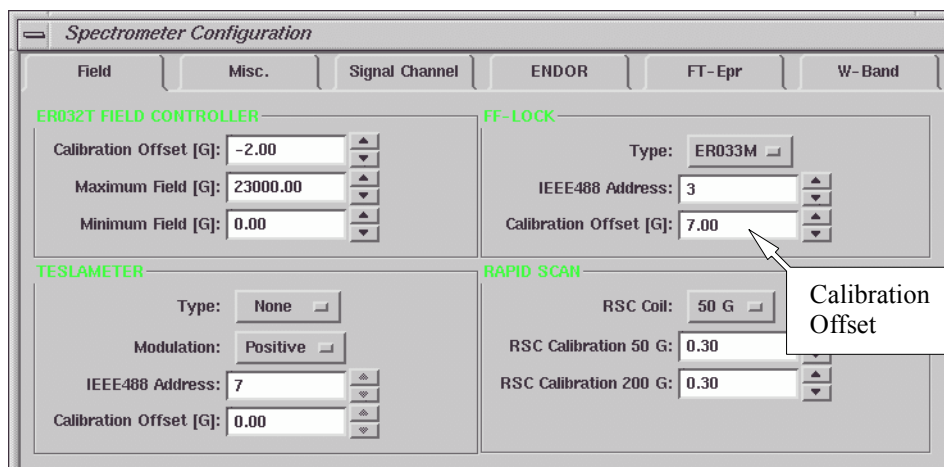

Figure 12-22 Changing the FF-Lock Marker position.
5. **Enter the Calibration Offset.** Click Acquisition > Spectrometer Configuration. In the Field folder of the dialog box enter the value you measured in the previous step into the Calibration Offset box in the FF-Lock section. (See Figure 12-22.)